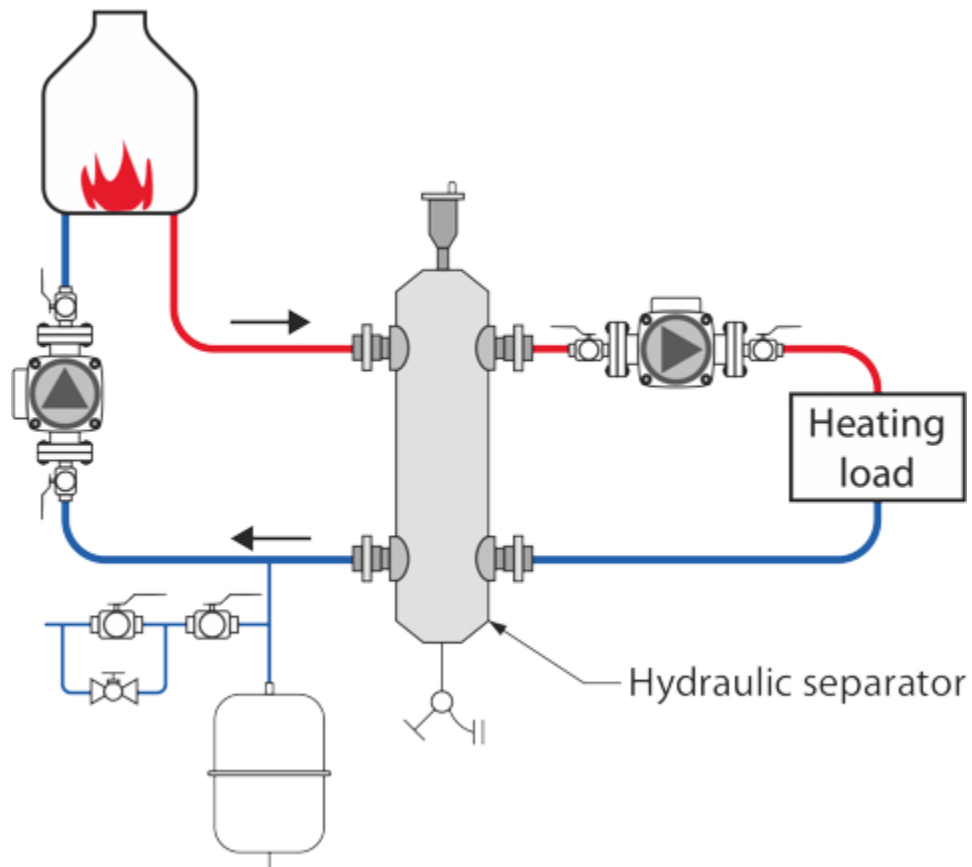

Figure 6 Hydraulic separator
- Figure 6 Hydraulic separator by ITA is licensed under a CC BY-NC-SA licence.